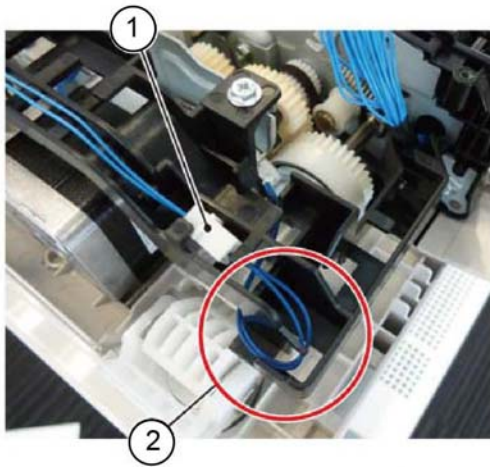

Figure 6 DADF T/A clutch connector
9. Disconnect the DADF T/A clutch, Figure 6:
- a. Disconnect the connector (1).
- b. Remove the harness from the harness guide (2).